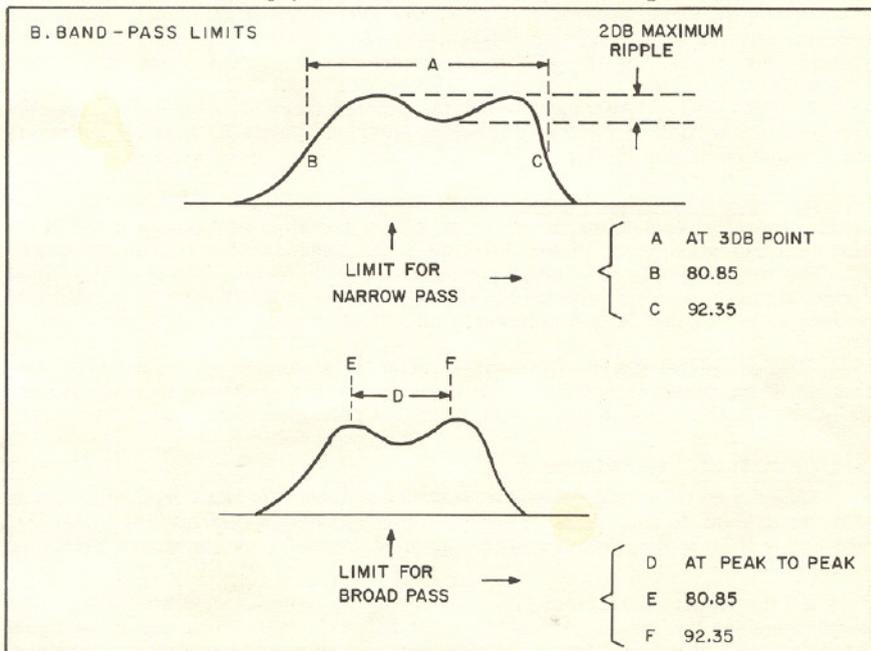

Figure 9. 80-MC to 90-MC IF Alignment Waveforms.
3. 80 to 90 MC IF Alignment. - Connect the oscilloscope probe to the junction of R9 and R10. Connect output from Jerrold Model 601 Sweep Generator or equivalent to pin 2 of V2. Set the sweep generator to provide a swept output of 80 MC to 92 MC. Adjust alignment points L (T1 secondary) and M (T1 primary). The output, as seen on the oscilloscope, should resemble that shown in figure 9.